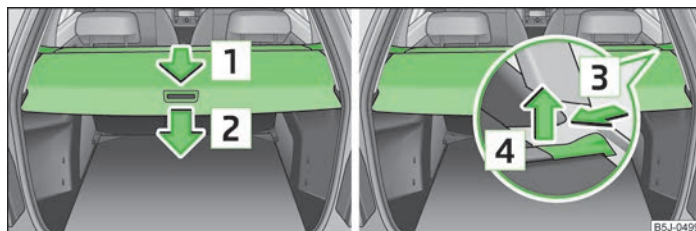

Fig. 49 Boot: foldable boot cover/removing foldable boot cover
- Pull the foldable luggage compartment cover in direction of arrow [1] » Fig. 49 as far as the stop into the secured position.